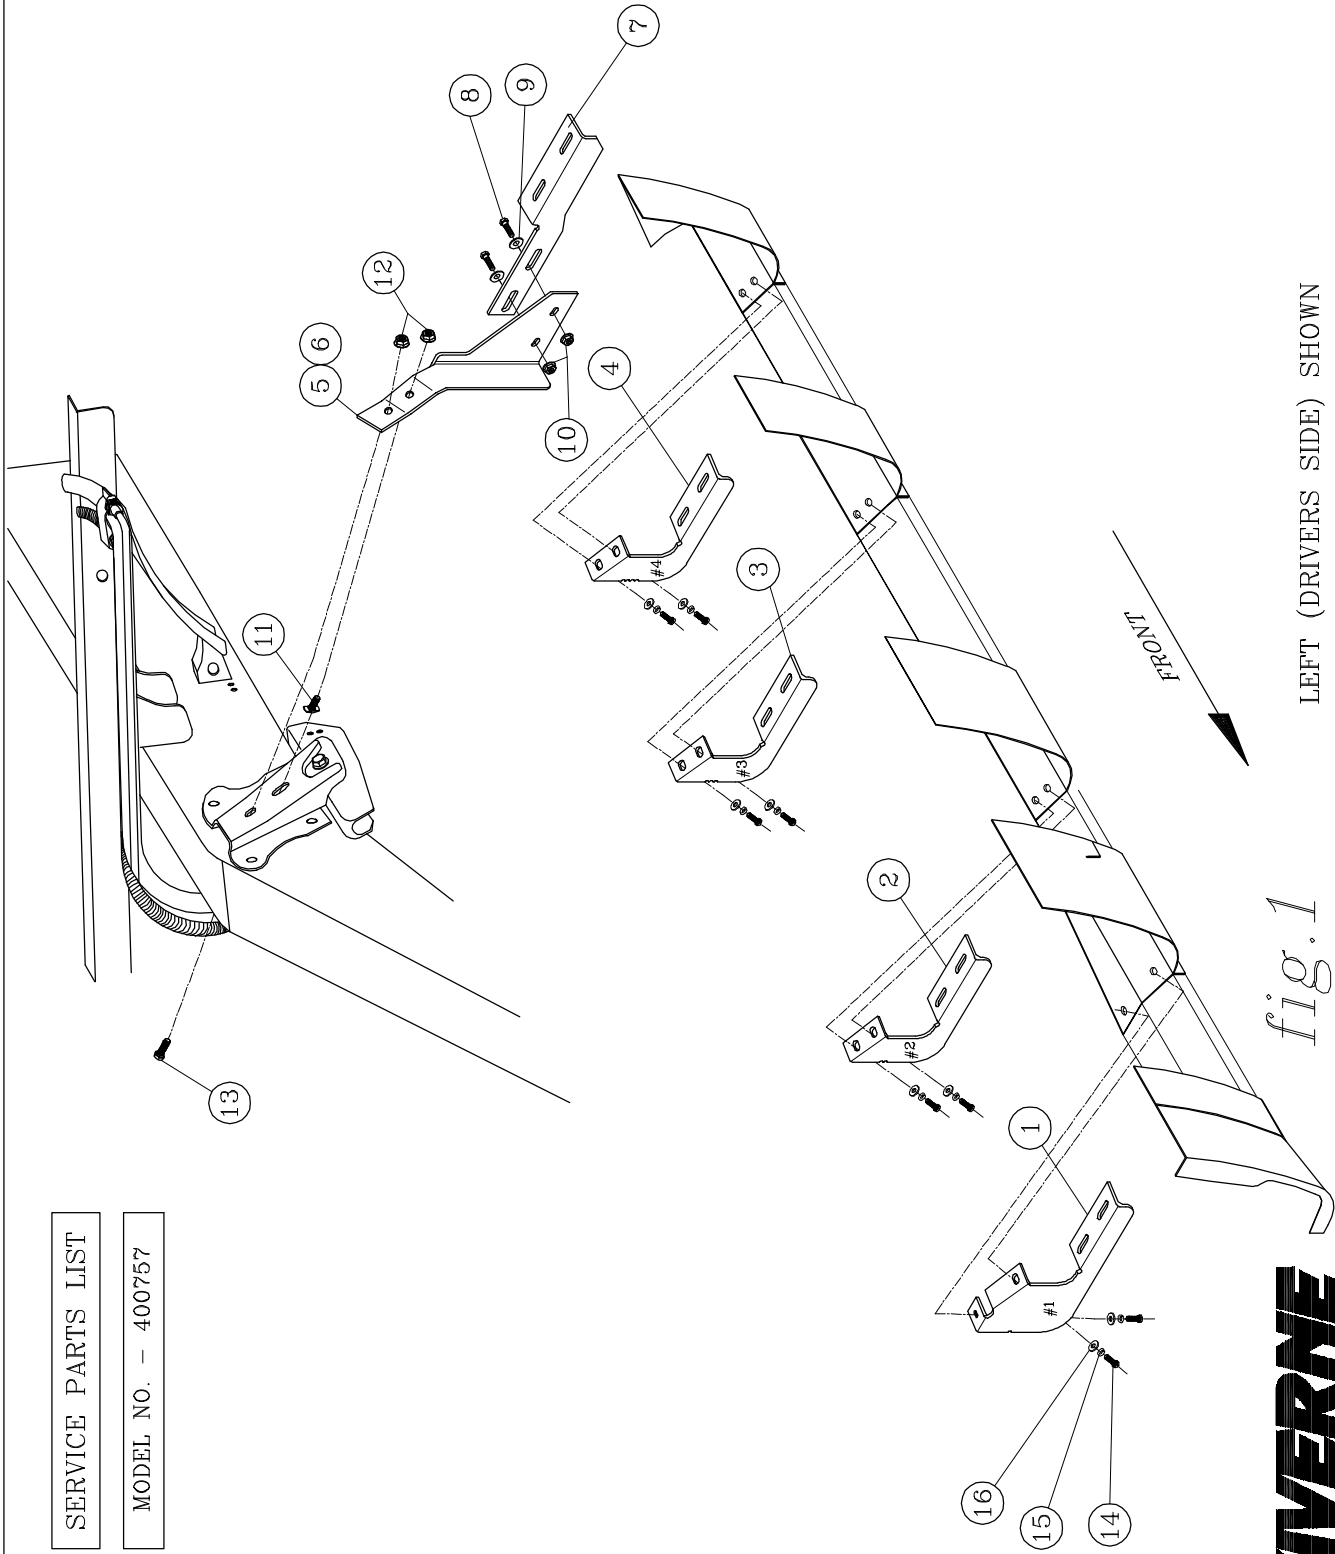

fig. 1
2. ATTACH THE MOUNTING BRACKETS TO THE VEHICLE USING EXISTING MOUNTING HOLES ON THE INTERIOR WALL OF THE ROCKER PANEL. **(NOTE: THE BRACKETS MUST BE PLACE IN THE PROPER POSITION. THEY ARE IDENTIFIED WITH NOTCHES ON THE INBOARD EDGE. [1 NOTCH IS FOR #1 BRACKET, ETC.] #1 WILL BE AT THE FRONT OF THE VEHICLE. SEE FIG. 1).**